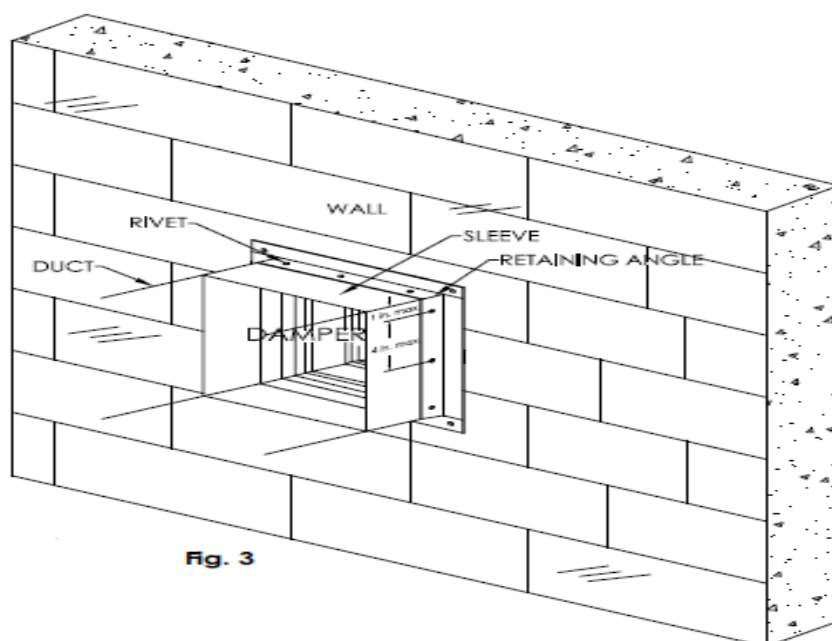

Fig. 3
- Retaining angles for 1½ hour rated dampers with a height 36 in. (914mm) or less must be a minimum of 16 ga. (1.5mm). The leg of the retaining angle on the damper sleeve shall be a minimum of 2 in. (51mm). The leg of the retaining angle on the wall shall be long enough to cover the annular space and overlap the wall by a minimum of 1 in. (25mm). (See Figure 3). Retaining angle legs may be reversed with leg of retaining angle with annular space of opening so angle and sleeve flush against barrier.